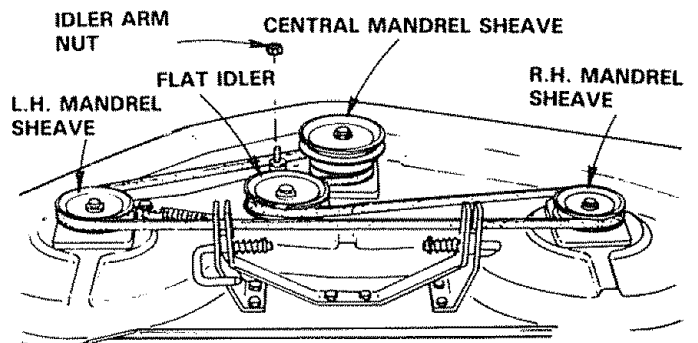

FIGURE 47
- Check deck idler arm assembly and flat idler to see that they rotate freely (Fig. 47).
- Be sure spring is hooked in deck idler arm assembly and on bolt in mower housing (Fig. 47).
- Install new belt in groove of L.H. mandrel sheave, lower groove of center mandrel sheave and around flat idler as shown (Fig. 47).
- From a position at discharge end of mower, roll belt into groove of R.H. mandrel sheave (Fig. 47).